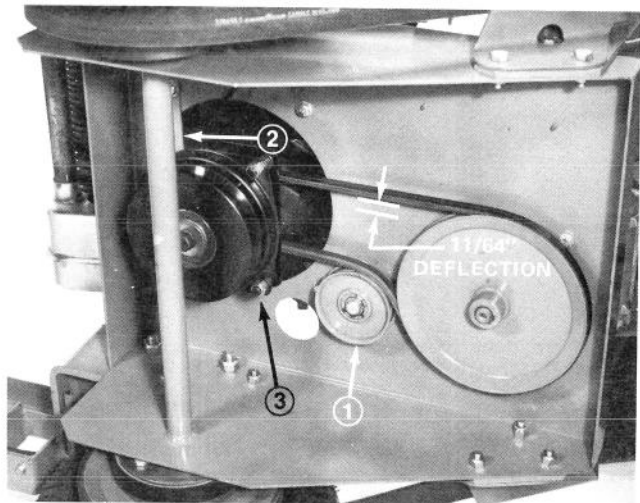

Figure 19
1. Loosen capscrew and flange nut securing idler pulley to frame (Fig. 19). Slide pulley outward relieving belt tension.
2. Remove left front engine mounting bolt securing clutch retainer to frame (Fig. 19). Unhook retainer from clutch and remove retainer.
3. Disconnect in-line wire connector and remove belt from drive pulley and clutch (Fig. 19).
6. Position and secure idler pulley to frame so belt deflection is no more than 11/64" when 5-1/2 lb of force is applied to midspan of long leg of belt (Fig. 19).
lb. of force is applied to midspan of long leg of belt (Fig. 19).
1. To adjust clutch, tighten or loosen locknuts on flange studs (Fig. 19).